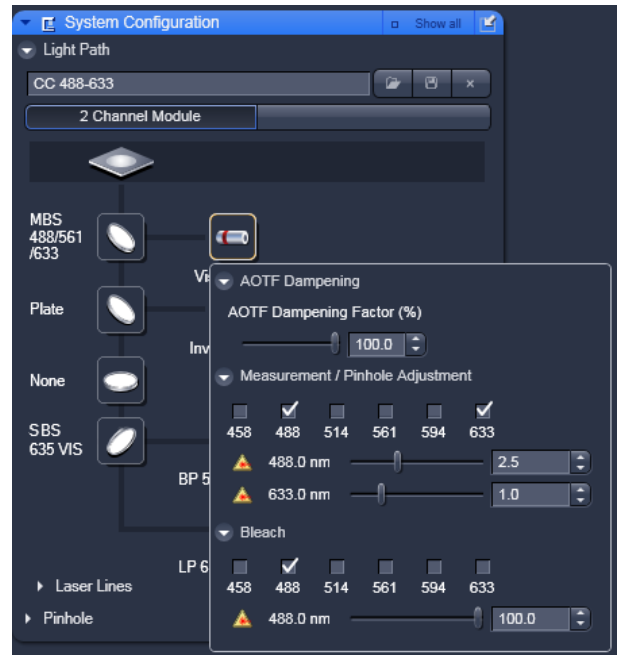

Fig. 9-25 System Configuration tab - Light Path panel with laser submenu
- Press the **Laser** button to display the Laser control expansion submenu (Fig. 9-25). Alternatively open the **Laser Lines** by clicking on the triangle. They provide settings for: